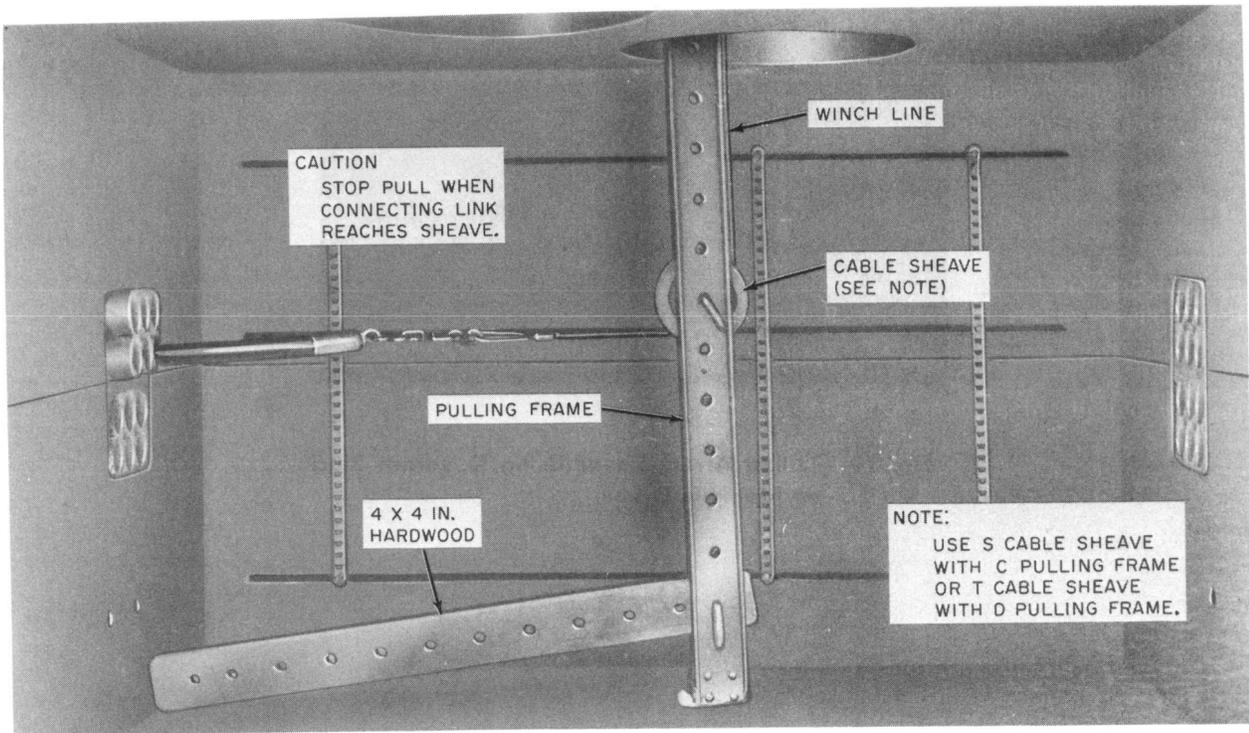
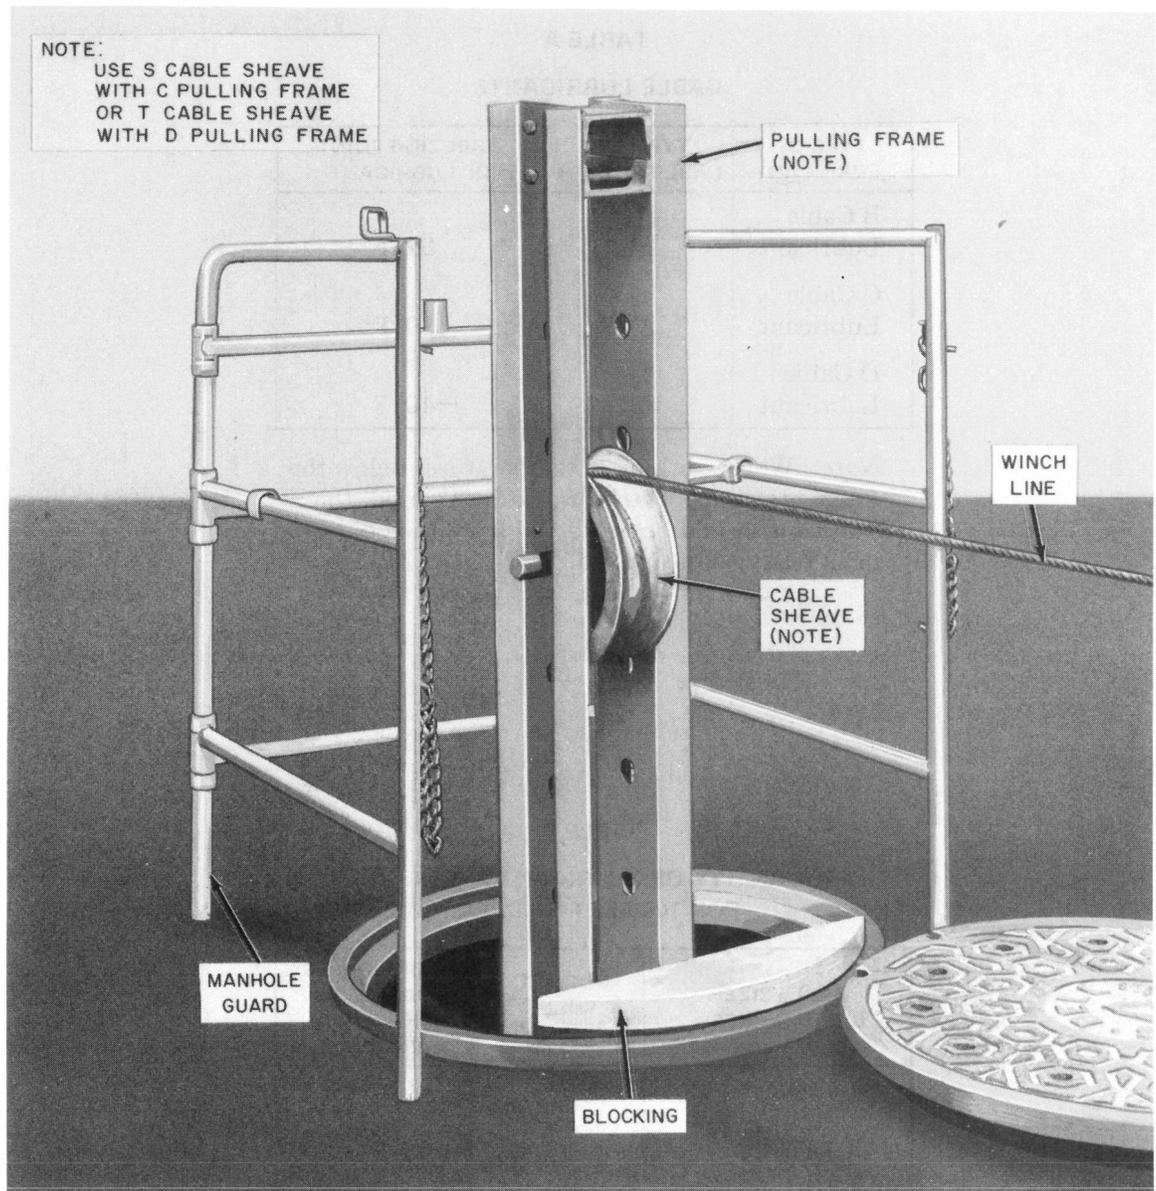

Fig. 12—Pulling Arrangement Using Pulling Frame and Cable Sheave
Fig. 13—View Above Manhole of Pulling Frame and Cable Sheave Arrangement
9.03 If the manhole is not equipped with pulling-in irons, use the C or D pulling frame for placing cable. Place the pulling frame in a vertical position with the S or T cable sheave placed in the frame as illustrated in Fig. 12. A quadrant block may be used in place of the cable sheave. To prevent the frame from moving, 4- by 4-inch hardwood timber should be used at the floor of the manhole. Figure 13 illustrates an S or T cable sheave placed in the top of the pulling frame and the additional blocking required in the manhole opening to support the frame. If it is necessary to make the pull at an angle to the conduit run, further bracing should be placed to prevent any side movement of the frame.